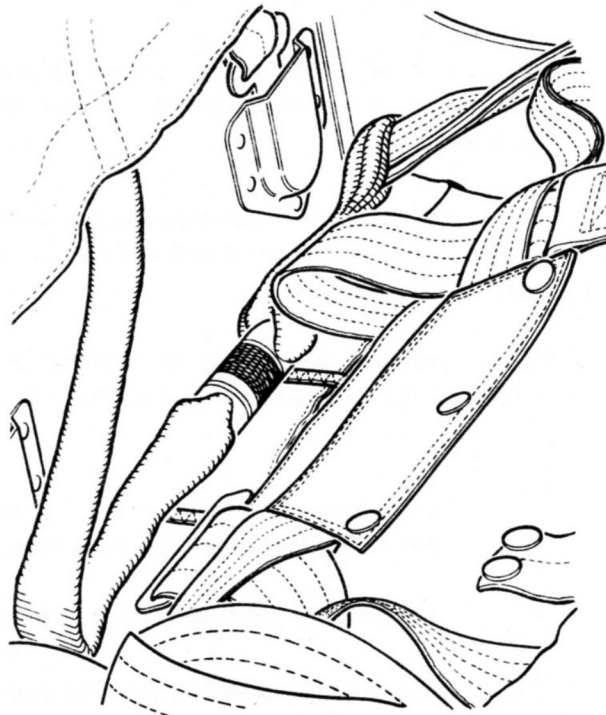

Fig 4 Parachute withdrawal/link coupling
(8) Tension the apron against its clips and connect the two halves of the parachute withdrawal/link coupling ensuring that the lines are routed external to and behind the parachute harness straps as shown in fig 4.
(9) Re-arrange the parachute pack in the seat pan correctly (with the flap downwards), and ensure that the loop strap of the upper oxygen tube stirrup quick-release is correctly attached to the parachute harness. Raise the